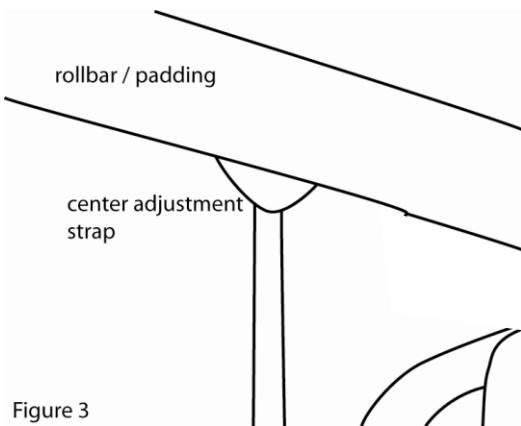

Figure 3
**NOTE:** So as not to over tighten, do not use any tools to tighten this strap. See Figure 3 & 4.